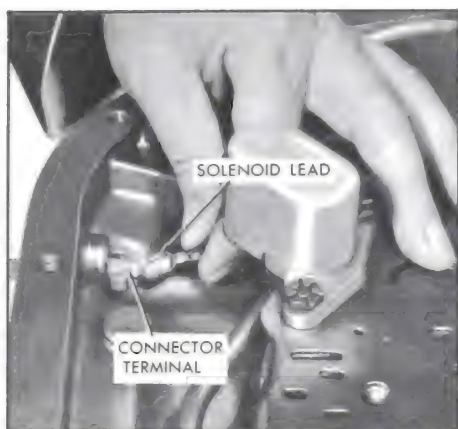

Figure 5-518
4. Disconnect solenoid lead from connector terminal. See Figure 5-518.